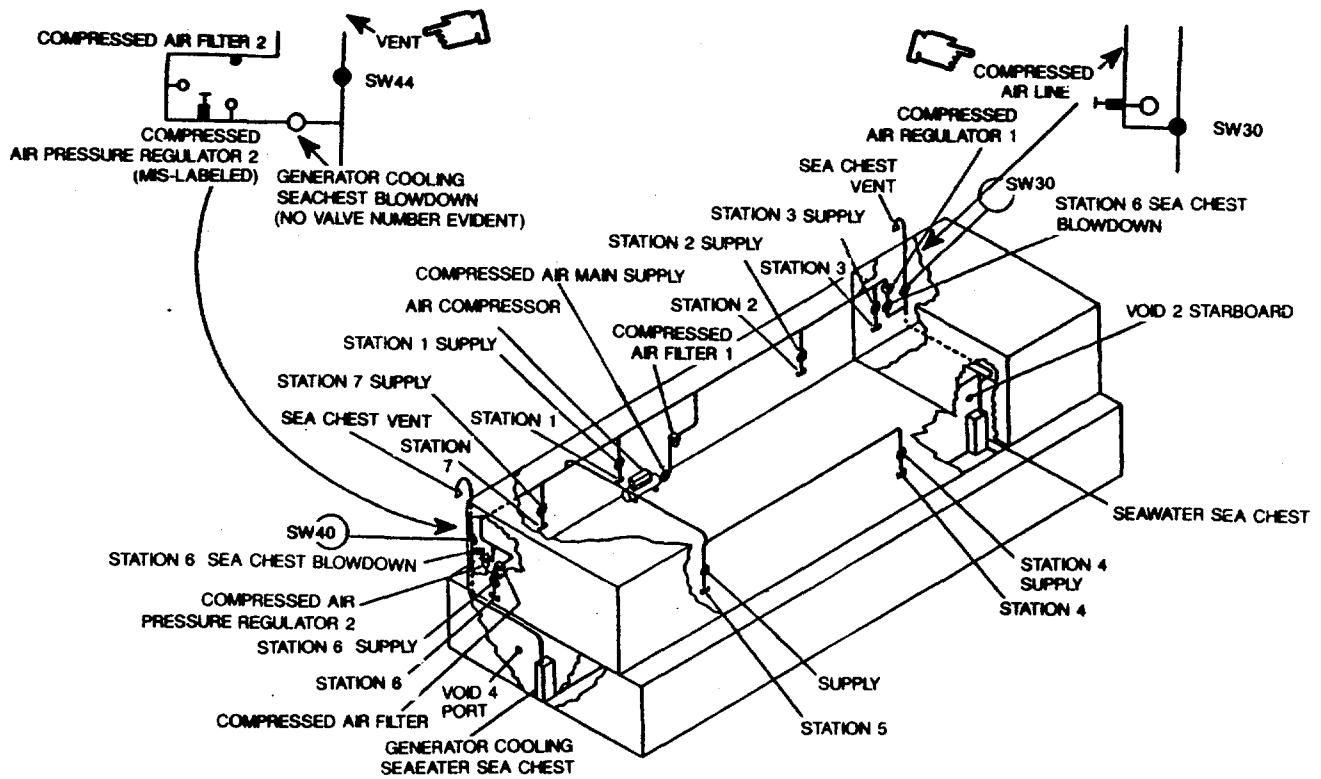
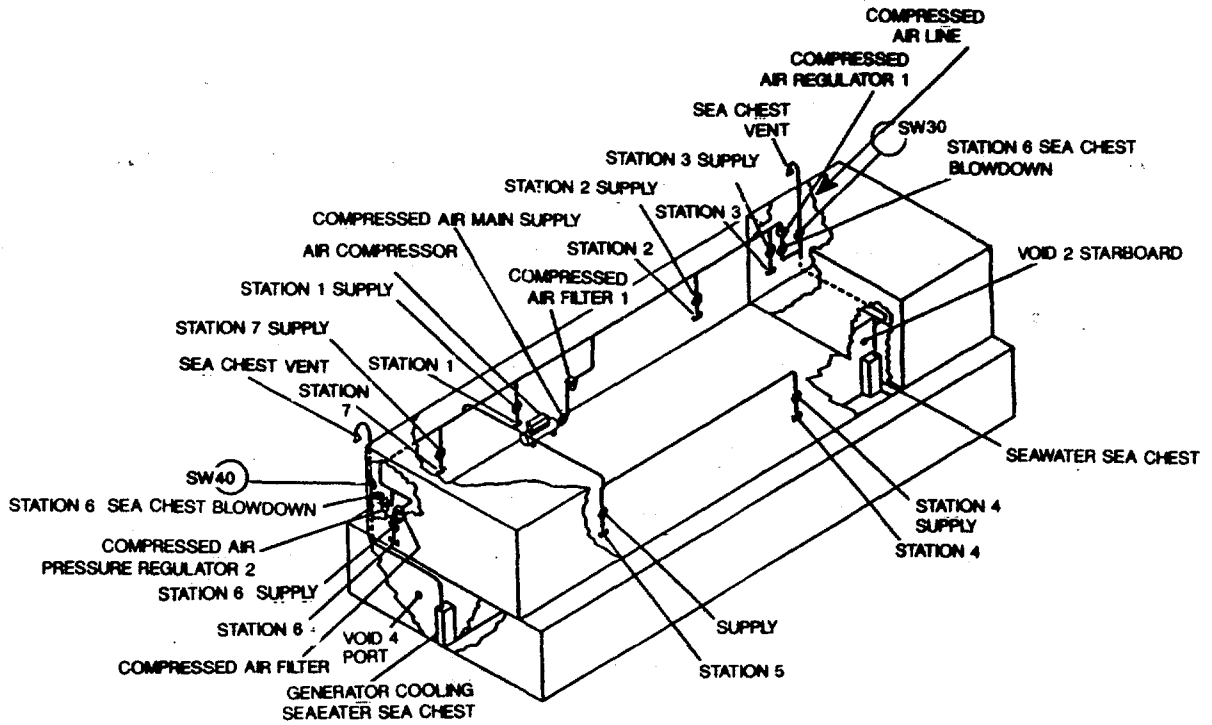

Figure 7-6. Location of Compressed Air System Components-Barge 1
Figure 7-7. Location of Compressed Air System Components-Barges 2 and 3
**7-3 Compressed Air System Description.** The compressed air system provides compressed air to five air stations in the ROWPU space, one in the workshop, and one on stern weatherdeck. It also provides compressed air to two air stations. for blowdown of seachests in void 2 starboard and void 4 port. These outlets, with other major components, valves, and piping are shown schematically in Figure 7-6 for Barge 1 and in Figure 7-7 for Barges 2-and 3.